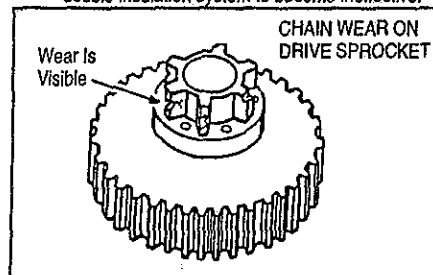

Figure 42
SPROCKET/GEAR ASSEMBLY (Fig. 42)
- Inspect the sprocket regularly for wear. A worn sprocket will cause the chain to run erratically and will shorten the life of the bar and chain. Figure 42.
- If sprocket is worn (Figure 42), have the sprocket replaced by your SEARS Service Center/Department. User sprocket replacement can cause the double insulation system to become ineffective.